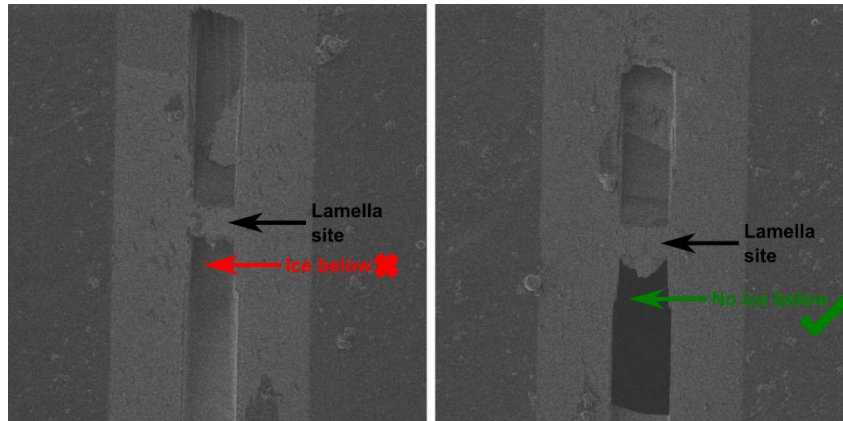

Figure 3 Two sites showing ice below the lamella (left) and clear space below the lamella (right)
- Identify lamellae which have ice below the lamella site (Figure 3) and note the lamella number